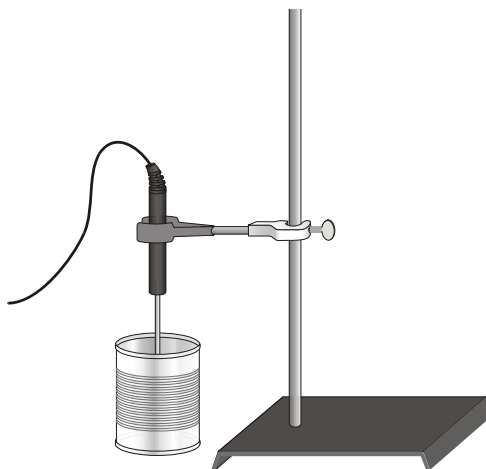

Figure 2
12. Lower the Temperature Probe into the water (to about 1 cm from the bottom) as shown in Figure 2. Click the Store Latest Data Set button (Ⓜ) to save the first run data.